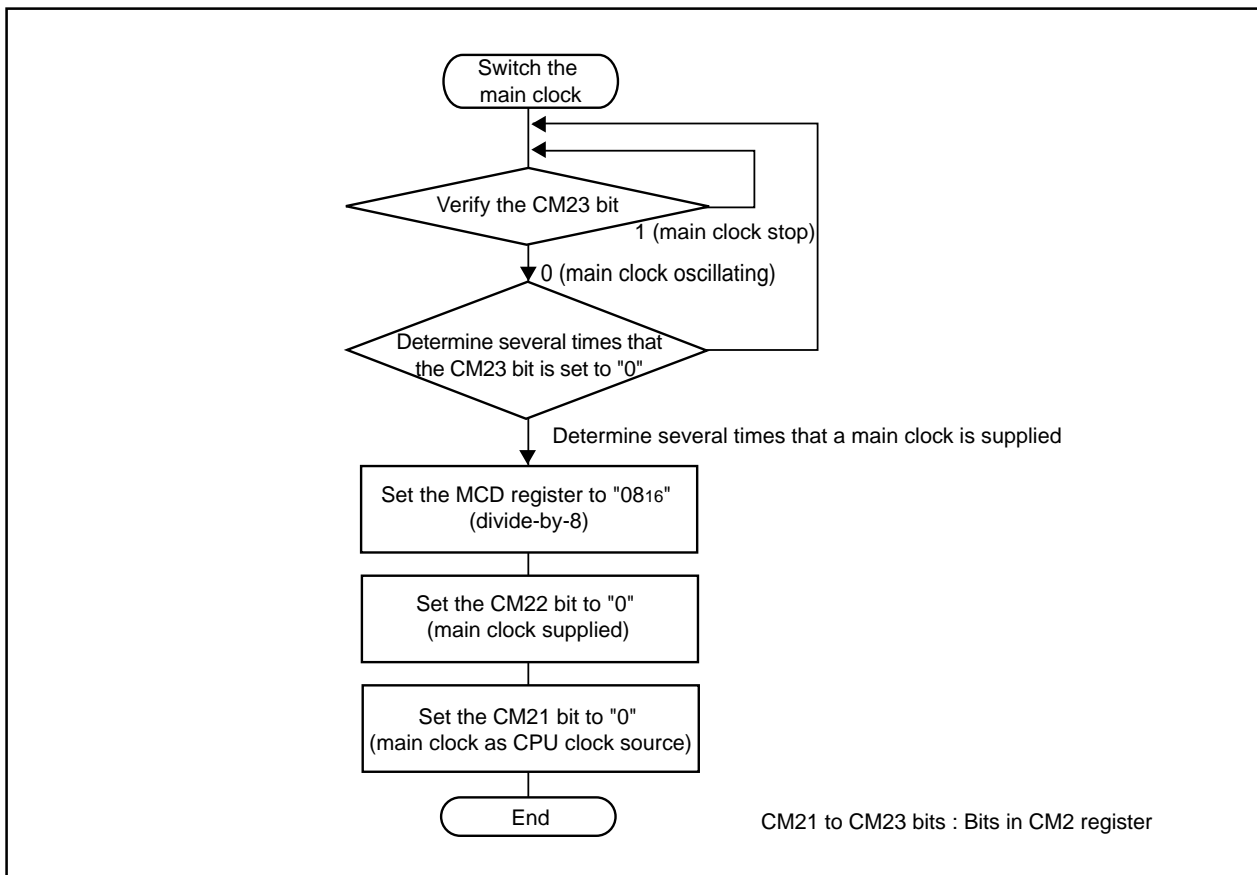

Figure 1.8.11. Switching Procedure from Ring Oscillator Clock to Main Clock
- When an oscillation stop is detected and the main clock resume its oscillation, the main clock should be set as a clock source of the CPU clock and peripheral function clock. Figure 1.8.11 shows a procedure to switch the ring oscillator clock to the main clock.